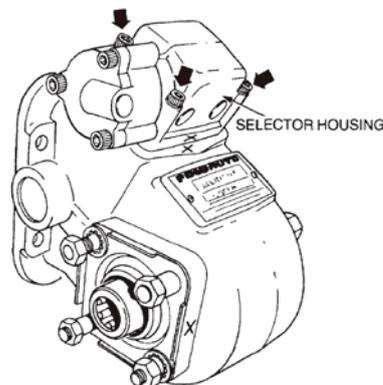

Figure 3 Socket Head Bolt Location
- c. Remove the four socket-head bolts securing the selector housing to the PTO and remove the selector housing (Figure 3).